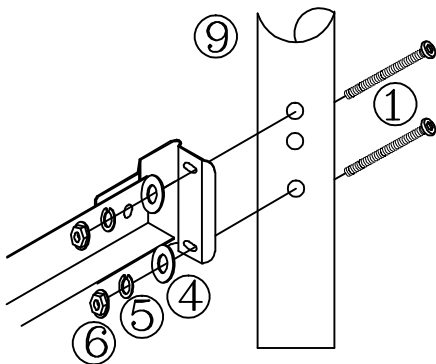

FIGURE 2
- Carefully insert leg extension (9) into bottom of headboard panel (11) post.
- Secure leg extension with screw (3) and flat metal washer (4) using allen wrench (7).
- Place 2 screws (1) through holes located in leg (9) (SEE FIGURE 2)
- Place a flat metal washer (4), lock washer (5) and hex nut (6) over on each screw. Hand tighten. DO NOT TIGHTEN screws all the way. (SEE FIGURE 2)
- Tighten all screws securely using the Allen wrench (7) and open wrench (8).